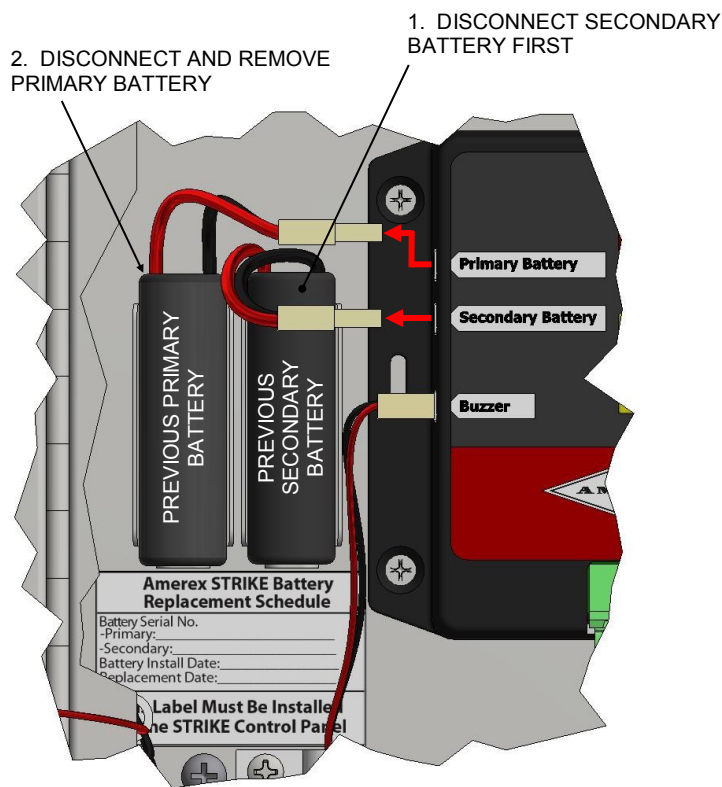

Figure 5.5a
1. Unplug the 'Secondary' battery from the STRIKE™ Control Unit (See Figure 5.5a).
2. Unplug and remove the 'Primary' Battery from the STRIKE™ Control Unit enclosure (See Figure 5.5a). Dispose of this battery properly.